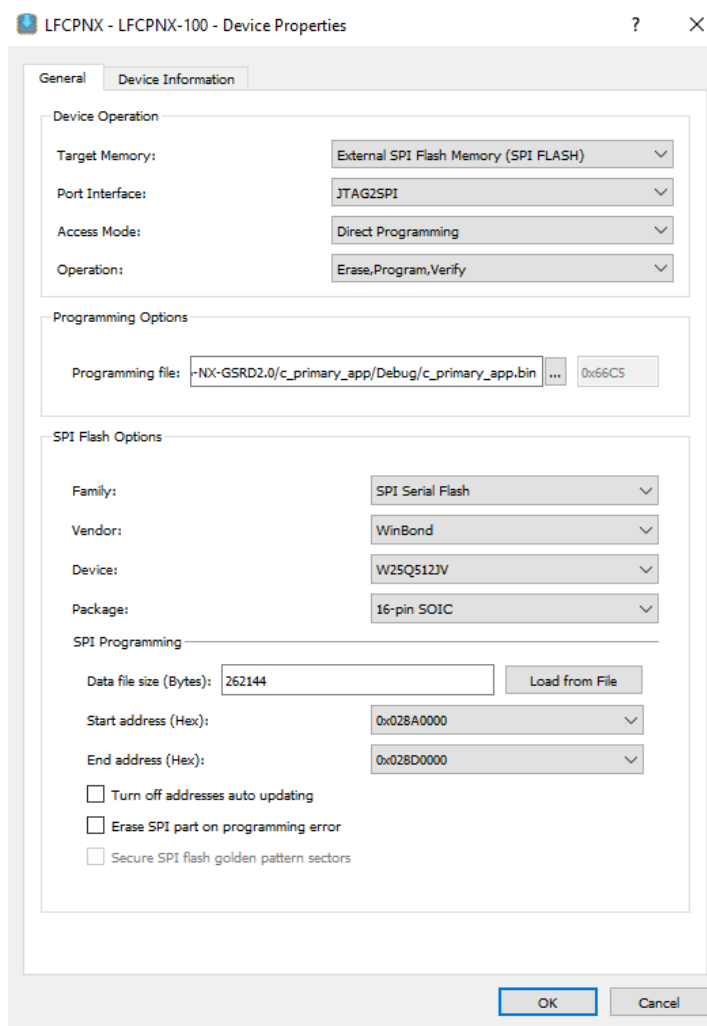

Figure 7.42. Device Properties Window for Primary App Binary without CRC
- To program the **c_primary_app.bin** software file into the SPI Flash, Follow the settings as shown in Figure 7.42.